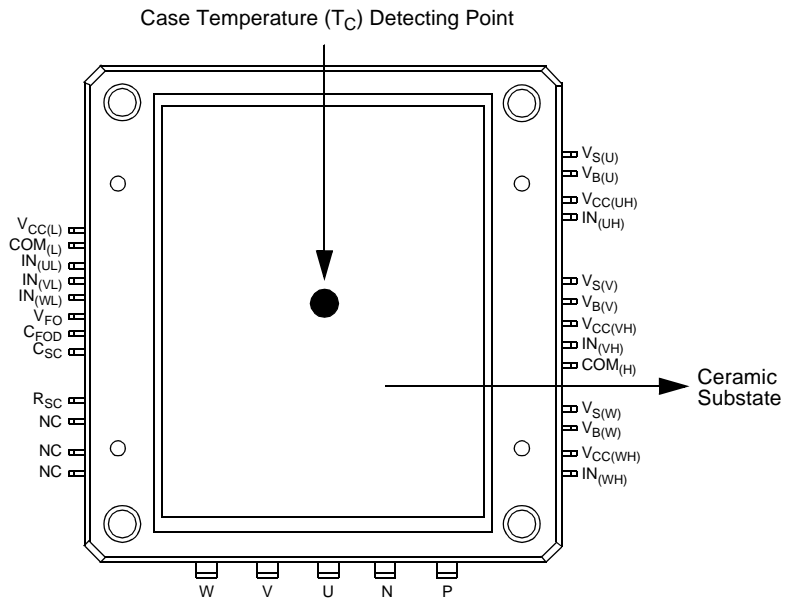

Fig. 4.  $T_C$  Measurement Point
2. For the measurement point of case temperature ( $T_c$ ), please refer to Fig. 4.